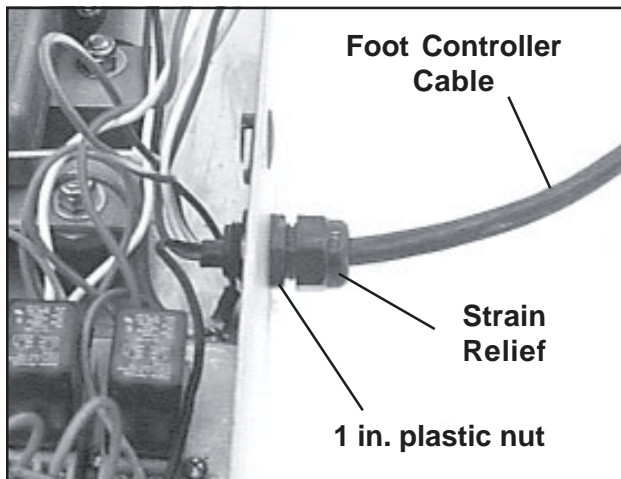

Figure 37. Foot Controller Cable Strain Relief & Nut
8. With a 1 in. open-end wrench, unscrew the black plastic strain relief (Figure 37).